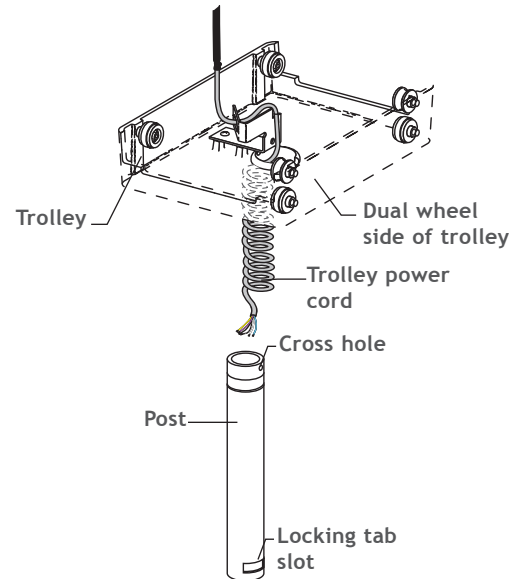

Figure 7. Recommended distances for positioning
2. Hold the end of the post with the cross hole toward the trolley base (see Figure 7), then pull the trolley power cord down through the post.